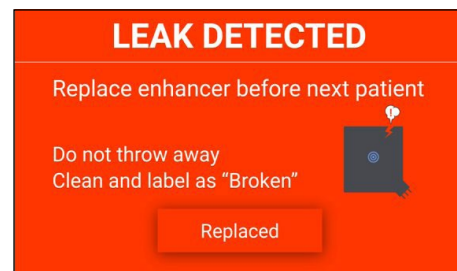

Figure 39. Recurring leak alert screen: Procedure Table Enhancer
2. If the problem persists, a component failure is indicated. A subsequent alert will occur after the patient is discharged from the Guardian System. (Fig. 39)